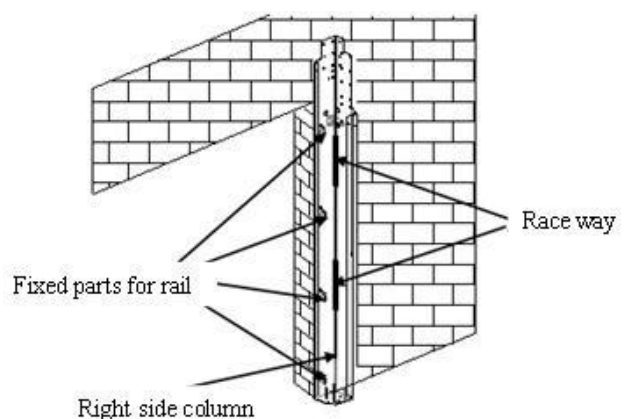

Figure 2-5
2.3.1 Take right side of column installation for example. Figure 2-5